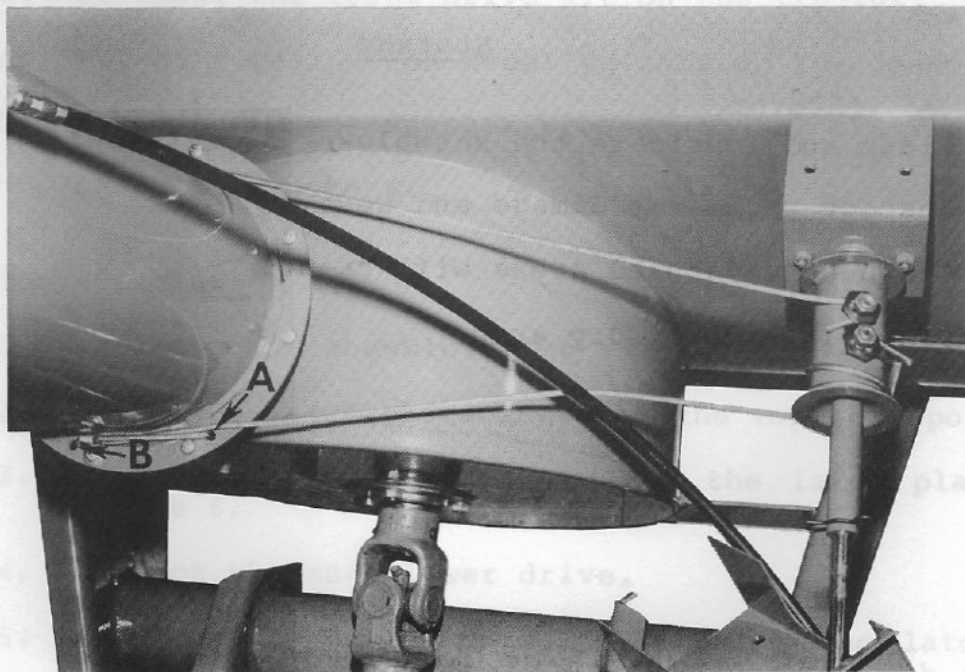

FIGURE 5
1. With the discharge chute in position on the blower base ring, turn the discharge chute all the way until the long screw (stop) stops the rotation for a left hand discharge. See Figure 5.
- a. The snowblower is shipped with the cable in place and adjusted for proper operation. See Figure 5.